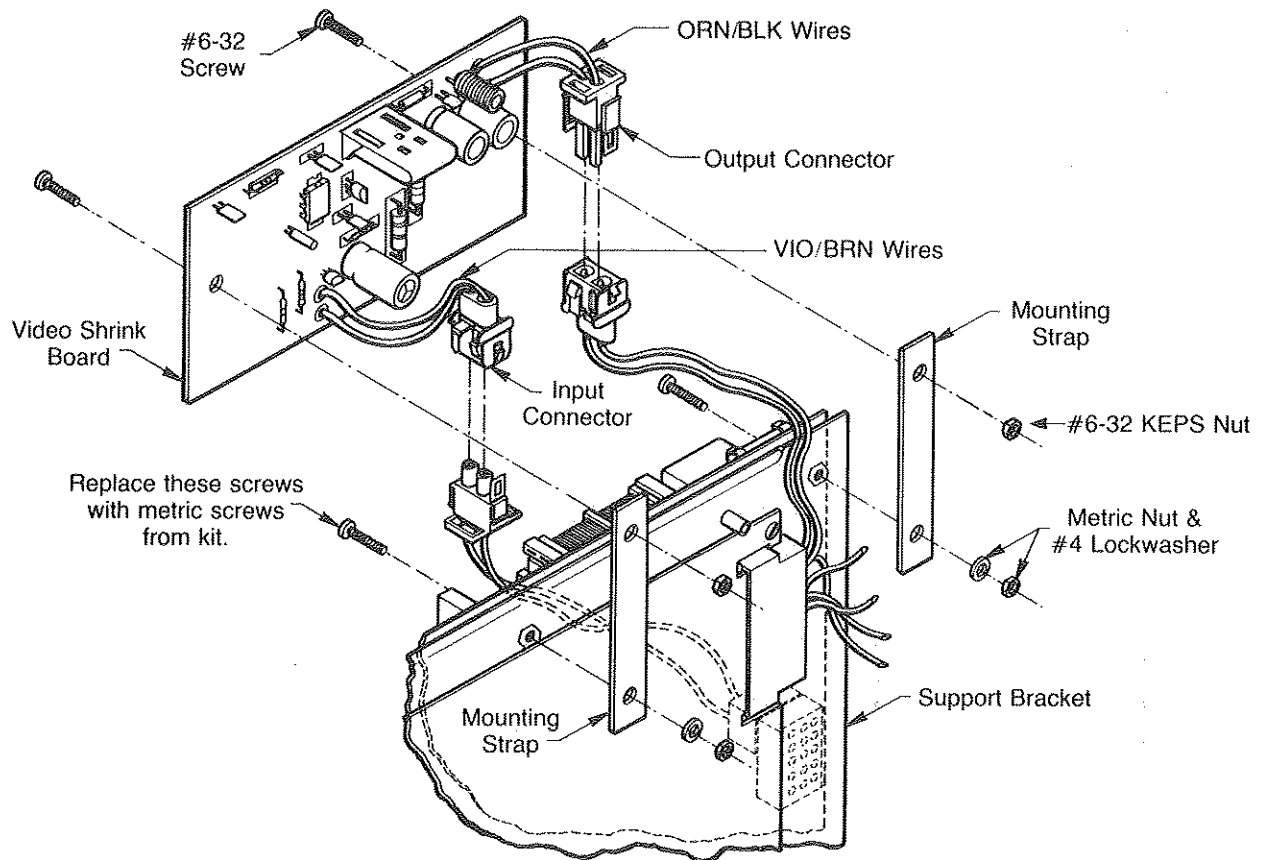

Figure 1. Installing the Video Shrink Board
Existing screws, which mount the Power Supply board to the support bracket, must be removed (see Figure 1). These screws are attached to the power supply support bracket through threaded spacers. The screws which are to be replaced are noted in Figure 1. The new screws are metric screws 16 mm long. Screw length is critical! The screw installed toward the front of the Model II will interfere with an existing circuit board if too long a screw is used. Be sure the screws are installed as shown.
1. Remove from the Power Supply board (see Figure 1) the two screws which are to be replaced.
5. Install the Video Shrink Board with the component side to the right side of the Model II as shown in Figure 1, using #6-32 screws and nuts.